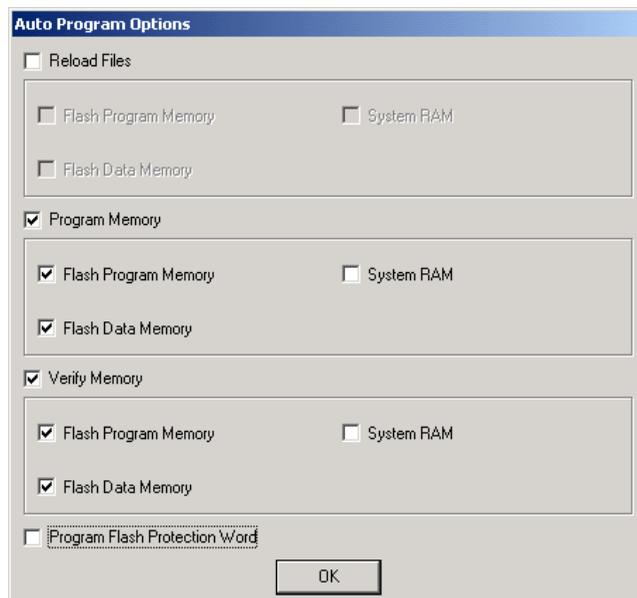

Figure 6-20. Auto Program Settings used in this Example
- Select Auto Program Options.** In this example, there is no need to reload the Intel Hex files each time a device is programmed, so this option is left disabled. However, we do want to program and verify both the Flash Program Memory and the Flash Data Memory memories, so these options must be checked. We do not want to modify the contents of the System RAM or Information Block 1, so these options remain unchecked. The final settings for the Auto Program Options dialog box are shown in Figure 6-20. Click the OK button to proceed.